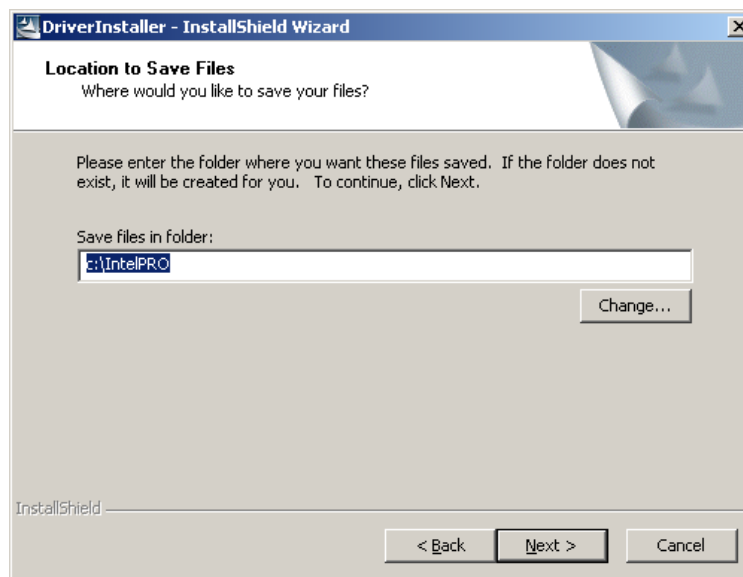

Figure 7-21: Location to Save Files
Step 8: The Location to Save Files window (**Figure 7-21**) appears.